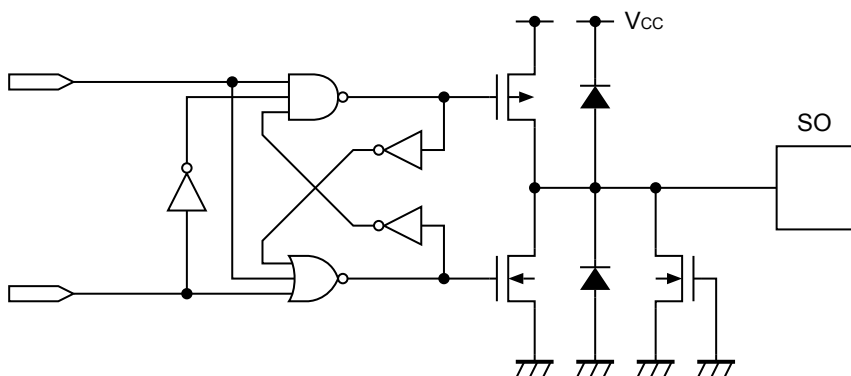

Figure 25 SO Pin
**Figure 25** shows the equivalent circuit of the output pin. This pin has the tri-state output of "H" level / "L" level/high impedance.